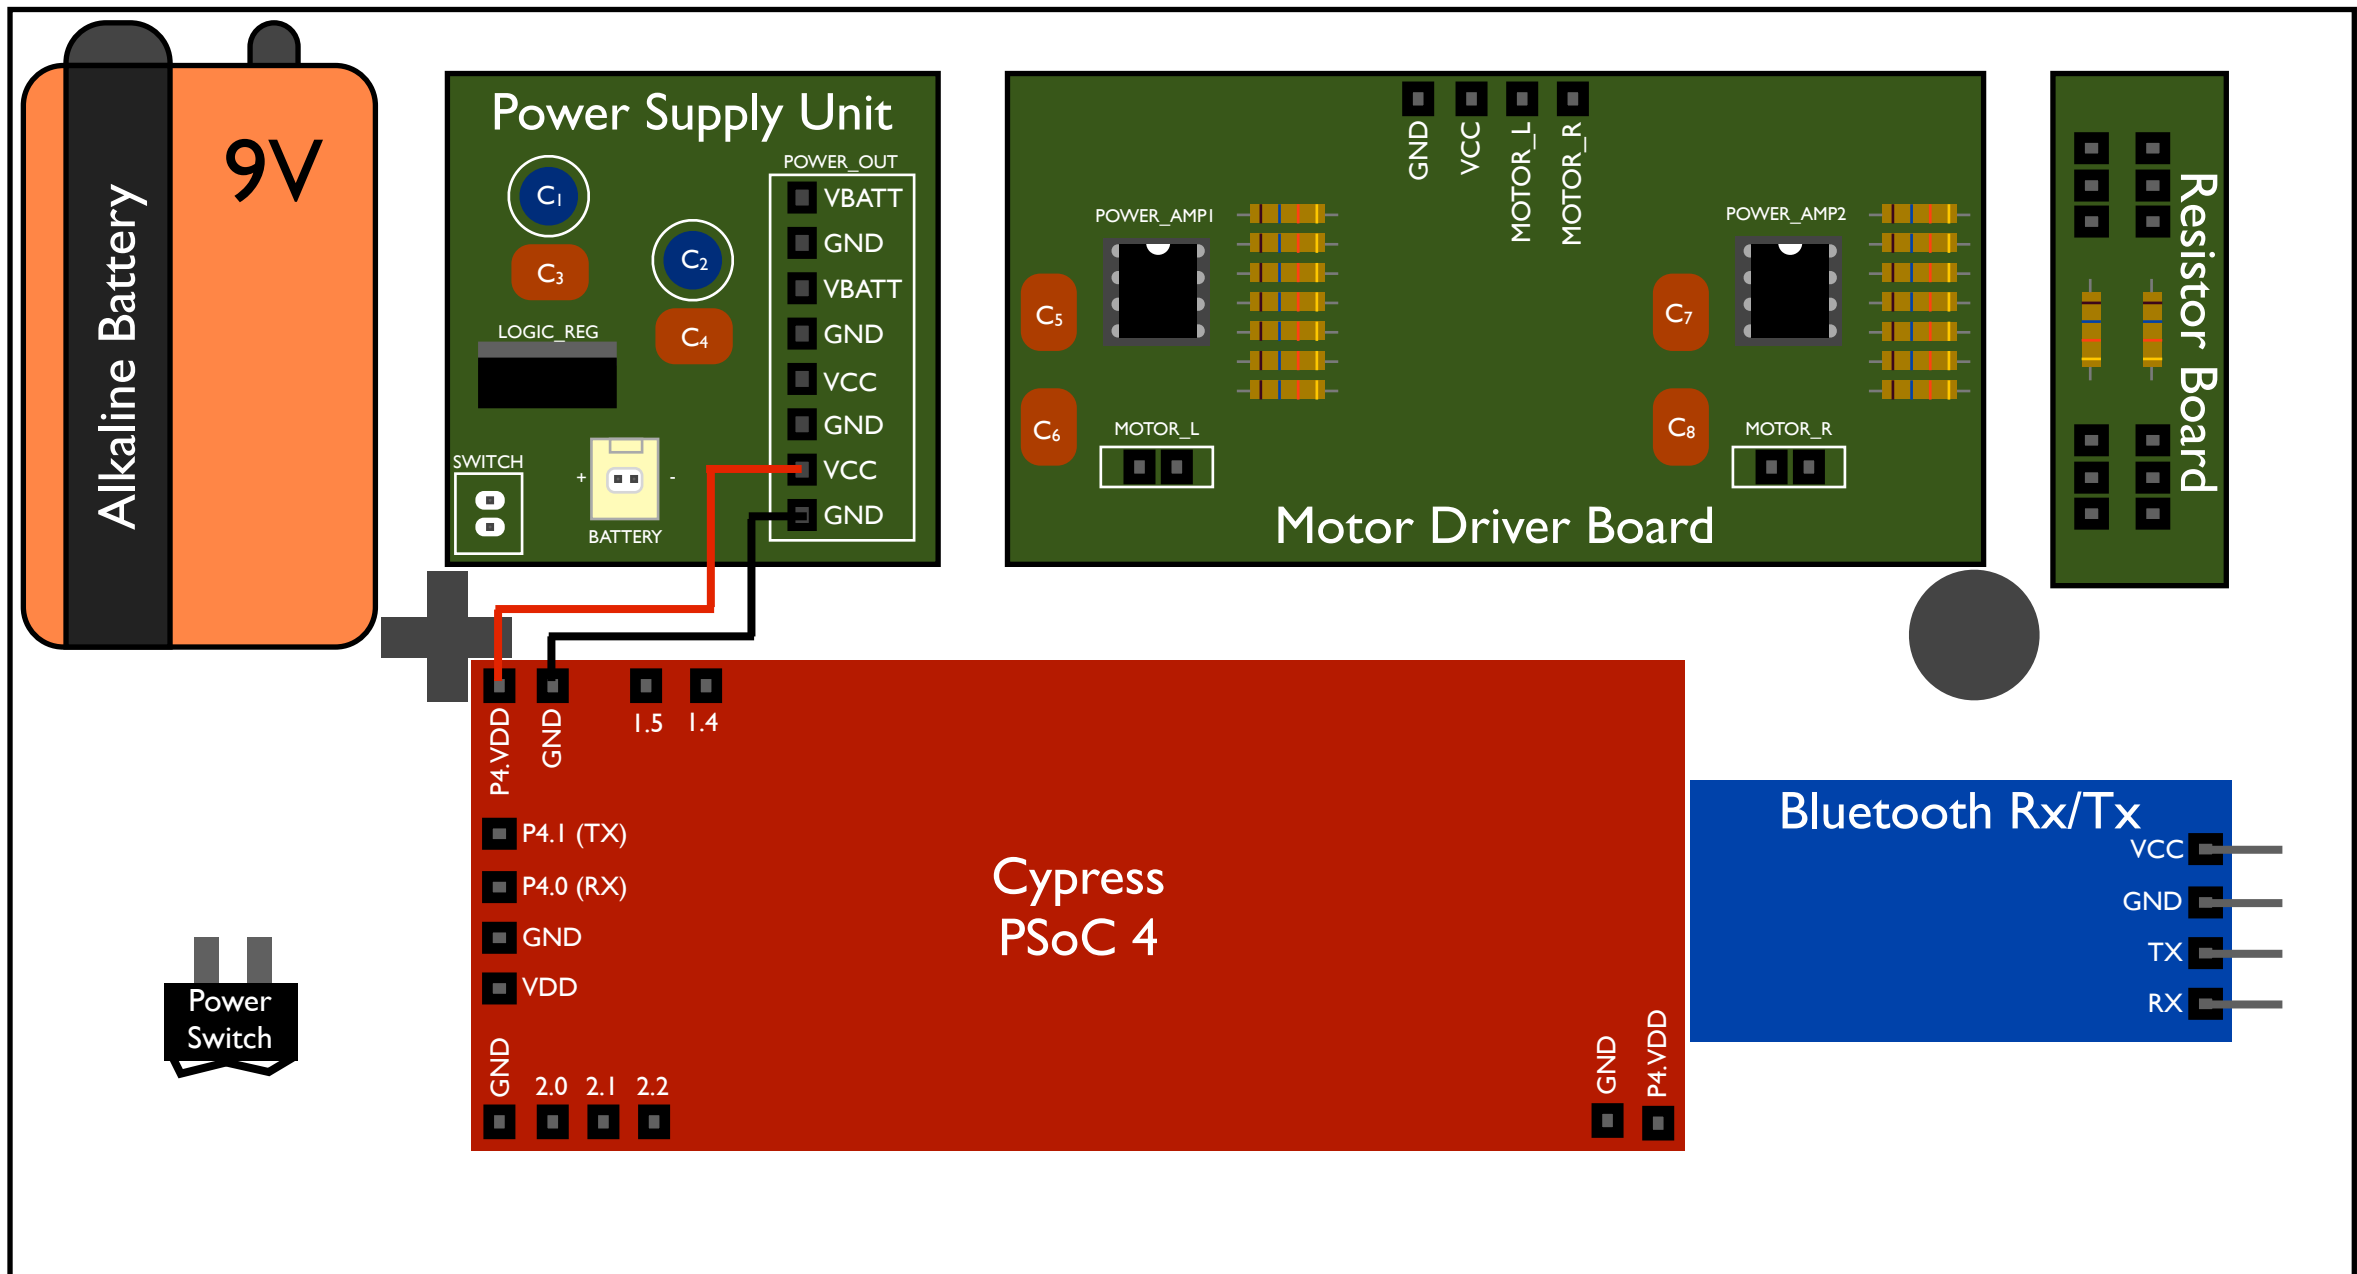

Figure 4. Connecting ground and power from PSU to PSoC, with one red jumper wire and one black jumper wire
4. Connect PSU and PSoC (Figure 4)